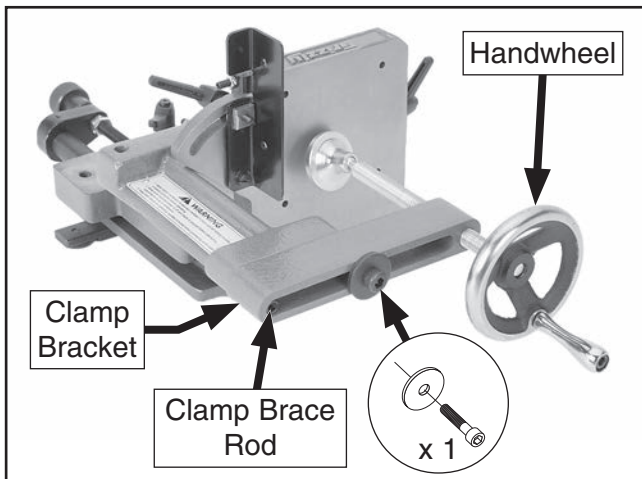

Figure 7. Clamp bracket and handwheel installed.
3. Slide clamp bracket over clamp brace rod, as shown in **Figure 7**, then secure it with (1) M8-1.25 x 50 cap screw and (1) $\frac{5}{16}$ " fender washer.
4. Align set screw in hub of handwheel (see **Figure 7**) with flat of clamp shaft, then slide handwheel onto shaft and tighten set screw.